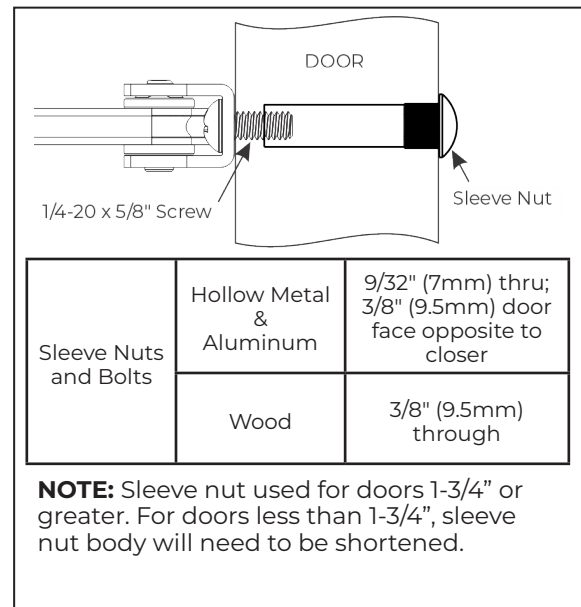

Figure 5
- For sleeve nuts and bolts**, see illustration. (Figure 5)